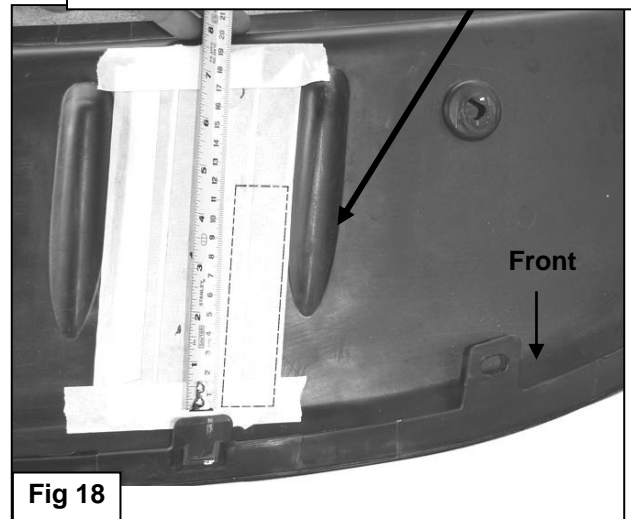

Fig 18
10. Next, hold the splash guard up to the bumper cover and align it with the mounting points. Mark the location of the Frame Mounting Brackets onto the back of the splash guard, **(Figure 18)**. Cut an approximately 1.5" wide by 4.5" box in the splash guard, **(Figure 18)**. **NOTE:** The size of the area to cut is an estimate only and may vary due to different factory designs for the splash guards and front bumper covers. Also, additional cutting may be required to clear the Support Bracket on vehicles equipped with tow hooks. **IMPORTANT:** To maintain the integrity of the splash guard, do not cut the slot any larger than necessary. Do not cut through the front or back edges of the cover, **(Figure 18)**. Make several small cuts first and check the fit often for a clean installation.